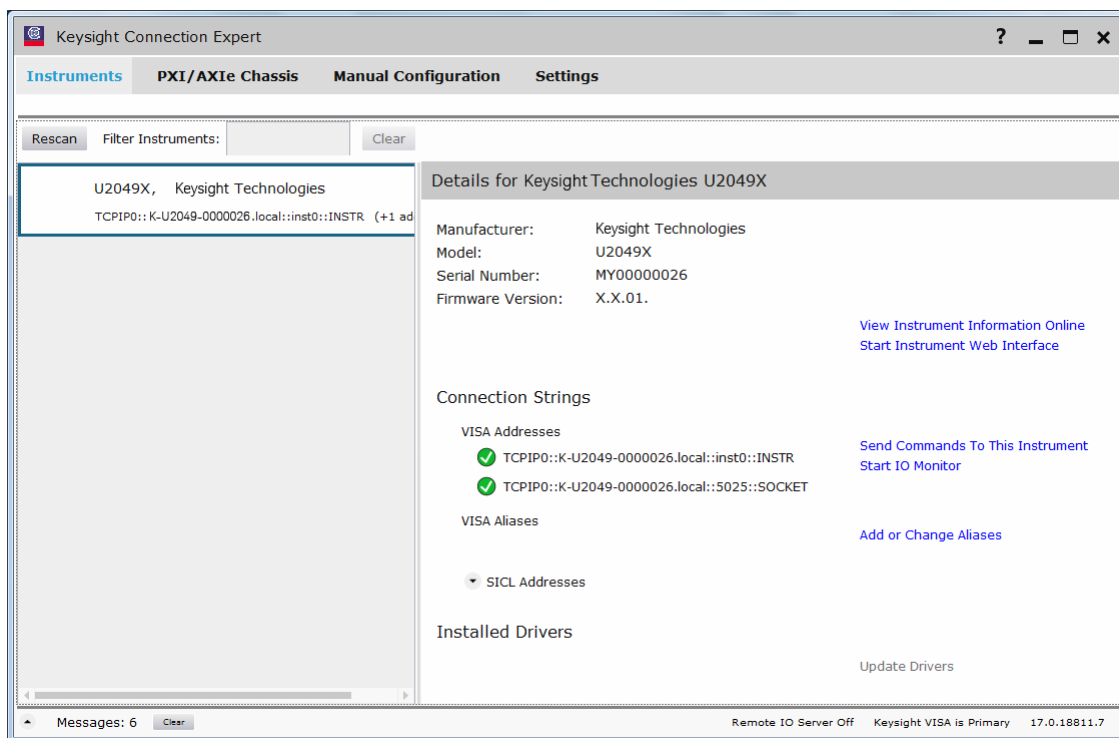

Figure 1-12 Auto-locate a LAN instrument in Keysight Connection Expert via Static IP
- 6 Launch the Keysight Connection Expert by selecting the IO icon (). Auto-locate the U2049XA as shown in **Figure 1-12**. Click **Rescan** to start searching.